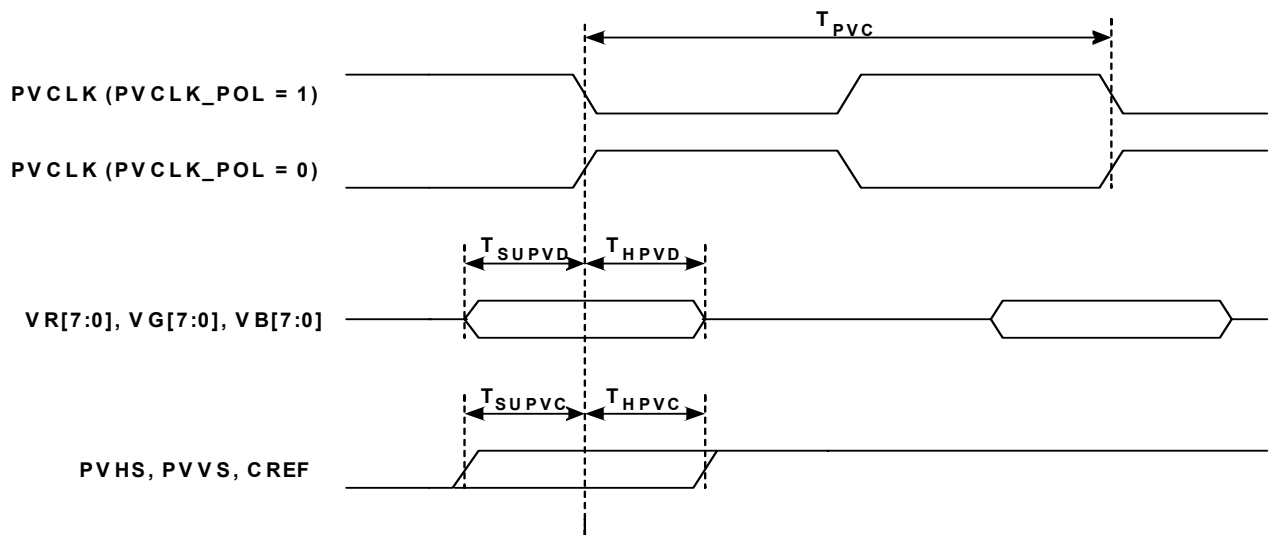

Figure 3-1 Primary Video (PV) Port Timing
3.3 Primary Video (PV) Port AC Timing Characteristics
Figure 3-1 illustrates the AC timing characteristics for the Primary Video (PV) Port on the SignalProcessor: